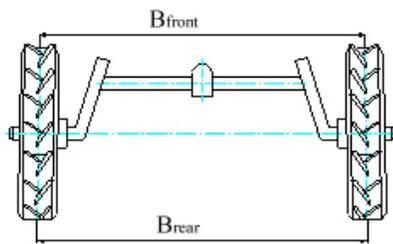

Fig. 5-2 Toe-in adjustment
5.3 Adjustment of the Toe-in (see Fig. 5-2)